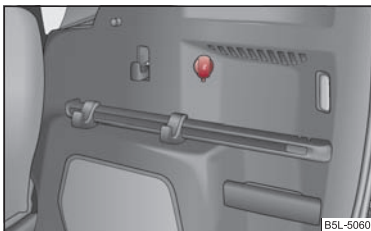

Fig. 88 Luggage compartment: Power socket
- Open the cover of the power socket ⇒ fig. 88.